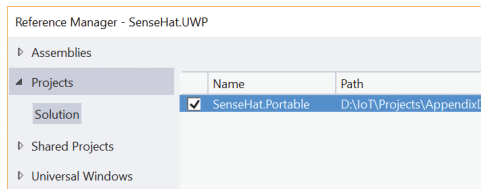

FIGURE D-4 Referencing SenseHat.Portable PCL in the SenseHat.UWP project.
2. In the Reference Manager dialog box, navigate to **Projects/Solution** and choose **SenseHat.Portable**. (See Figure D-4.)